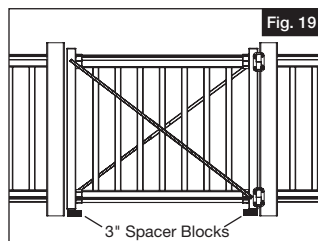

Fig. 19
- Flip rail over. Repeat instructions 7a–7e, being sure to install second brace on opposite side of gate, and opposite orientation of brace making an "X" (Fig. 19).
- Cut two temporary wood blocks 3" tall (not included), and rest bottom rail of gate on them. Align gate between the posts (Fig. 19).